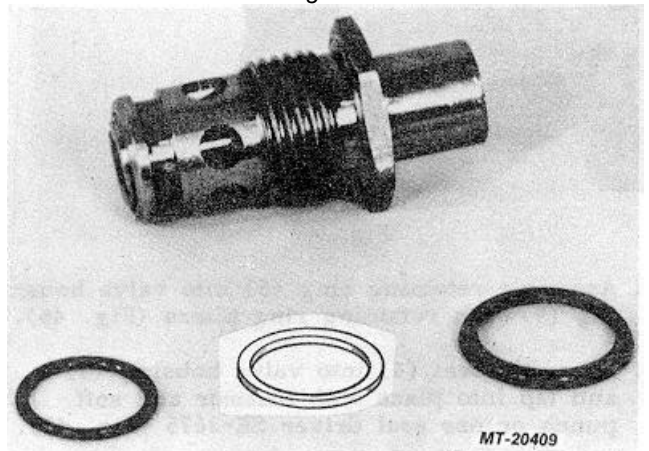
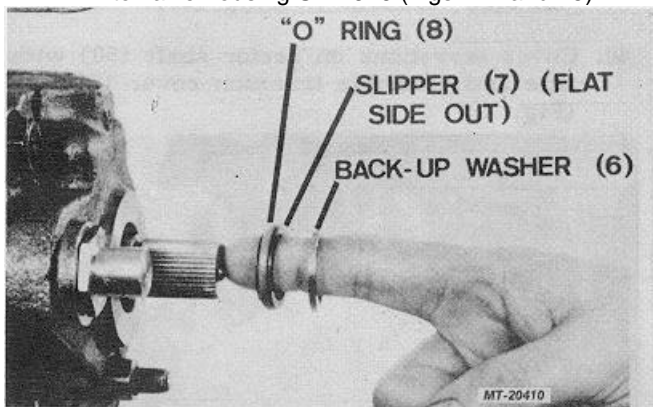

Fig. 43
Fig. 44
41. Assemble four screws (28) and torque to 16-30 Nm (12-22 ft.lbs.).
42. Assemble "O" ring (9B), seal ring (9C) and "O" ring (9D) onto relief valve (9A), if applicable (Fig. 43).
43. Assemble relief valve (9A) into valve housing (9), if applicable and torque to 34-48 Nm (25-35 ft.lbs.).
44. Assemble "O" ring (8) onto slipper (7) and assemble both parts (with flat side of slipper out) into valve housing (9). Assemble (steel) back-up washer (6) into valve housing (9), use seal driver to push parts into valve housing SE-2676 (Figs. 44 and 45).